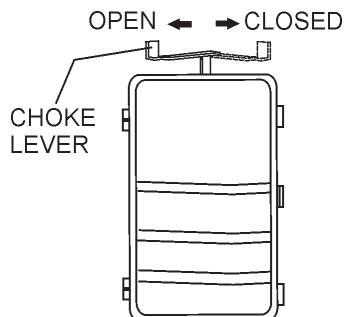

Figure 11. Choke Lever
2. Place the **choke lever** (Figure 11) in the "CLOSED" position if starting a **cold** engine.
3. Place the **choke lever** (Figure 11) in the "OPEN" position if starting a **warm engine** or the **temperature is warm**.
6. If the engine has started, slowly return the choke lever (Figure 11) to the “**OPEN**” position. If the engine has not started repeat steps 1 through 5.